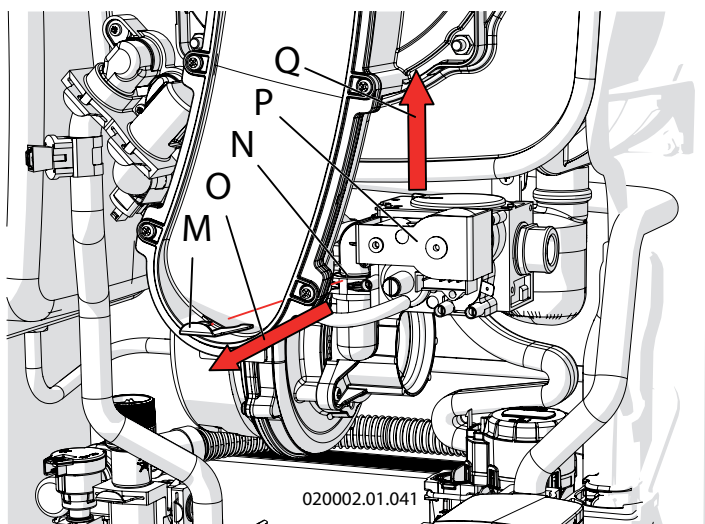

Figure 6.3 - Removing the gas valve
- 16 - remove the clamping spring "M" from the seat "N" releasing the valve "P" (See figure 6.3, detail "M")
- 19 - remount the gas valve (see figure 6.3, detail "P"), making sure to reposition the spring "M".